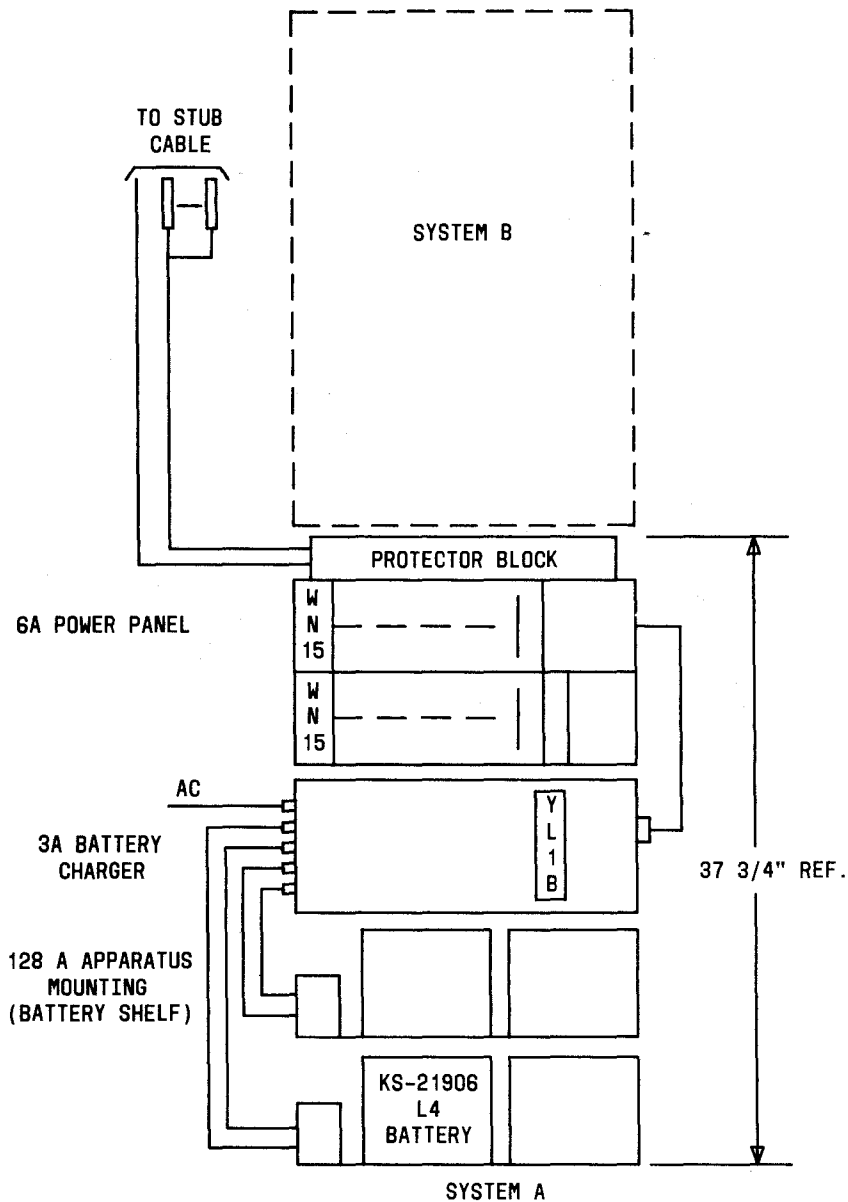

Fig. 5—Remote Power Feed Terminal (RPFT)—Typical Frame Arrangement
2.12 The RPFT can be assembled in a 7-foot frame (one or two RPFT systems per 7-foot frame), in an AT-8908M cabinet (excluding fan assembly), or it can be purchased as a completed assembly from the factory as the 37A cabinet. These mounting arrangements are shown in Fig. 5, 6, and 7.